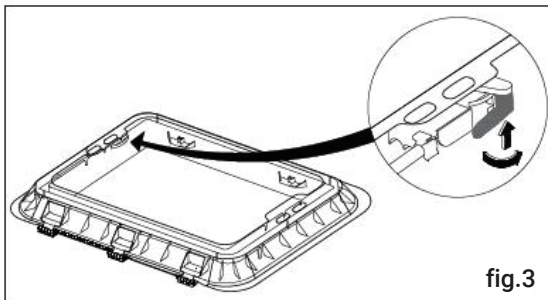

fig.3
1. Press the handle knob and rotate it 90° (see Figure 3).